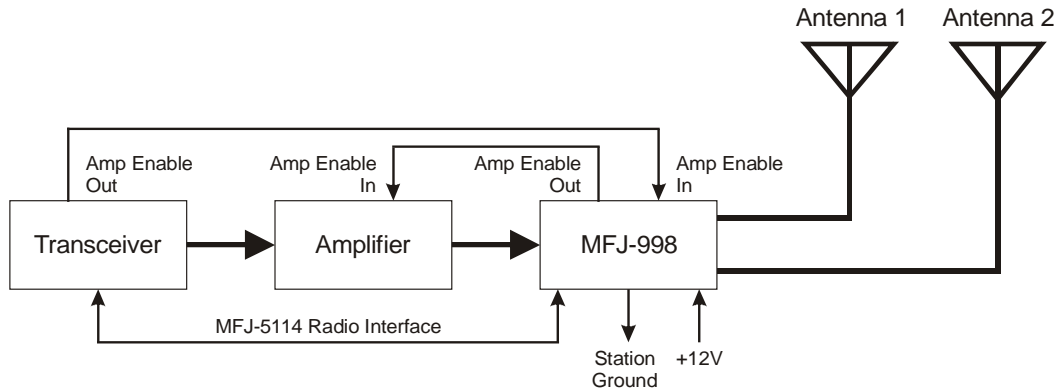

Figure 1. Typical Installation Block Diagram.
Connect the MFJ-998 to the transceiver, the amplifier, and the antenna as shown in Figure 1 and per the following directions:
2. Connect the tuner to the transceiver or amplifier with 50-ohm coaxial cables capable of handling the RF power levels expected. See Figure 1 on page 6.